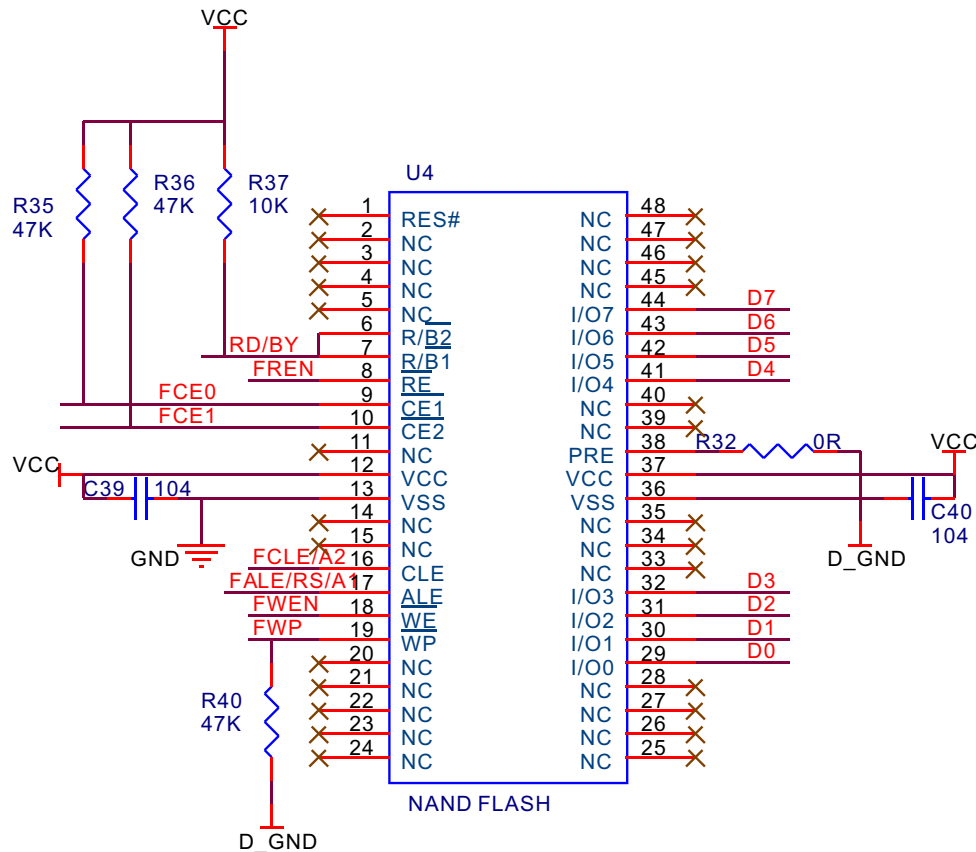

Figure 3.2.3.1 Flash circuit schematic diagram
1. FLASH circuit schematic diagram is shown in the figure 3.2.3.1: